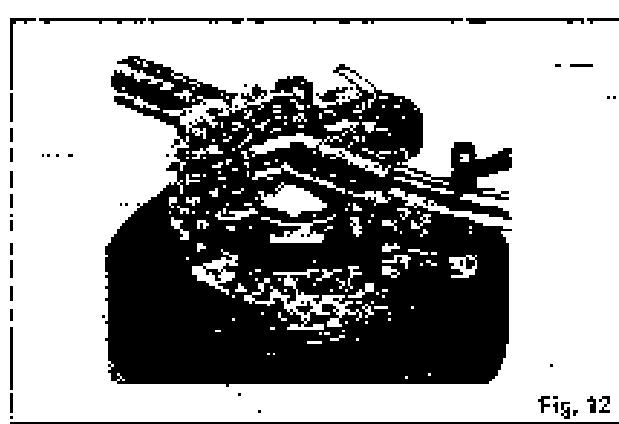

Fig. 12
5. Hold the arm base and set the red line mark on the arm base to the scale near "2", then turn the arm base clockwise. (See Fig. 12)